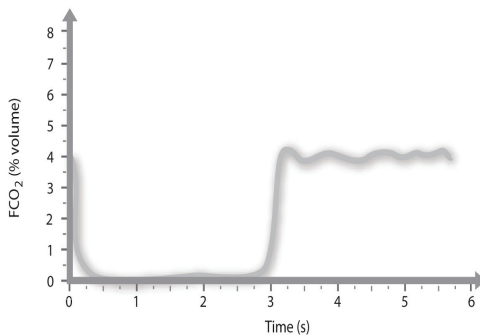
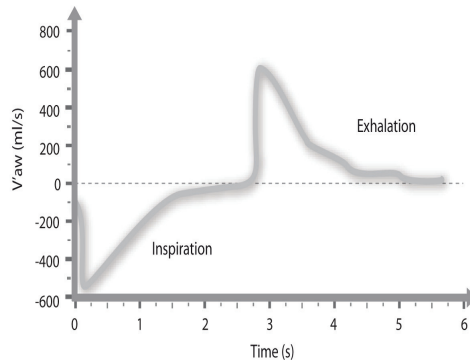
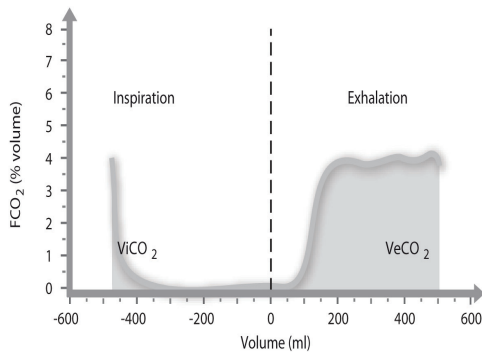

Figure E-1. Typical capnogram of patient on pressure-controlled ventilation, showing fractional concentration of CO₂ plotted against time.¹
Figure E-2. Typical spirogram of a patient on pressure-controlled ventilation (same breath as shown in Figure E-1).¹
Figure E-3. Combination of capnogram and spirogram (that is, fractional end-tidal CO₂ concentration plotted against volume).²
To convert a time-based capnogram into a volumetric capnogram, CO₂ must be combined with flow. Figure E-3 shows the volume of CO₂ exhaled in one breath, combining a typical FetCO_2 versus time curve (Figure E-1) with the flow curve (Figure E-2) for a mechanically ventilated patient. The area under the expiratory curve (B) minus the area under the inspiratory curve (A) is the net transfer of CO₂ out of the lungs per breath, or $V\text{CO}_2$.